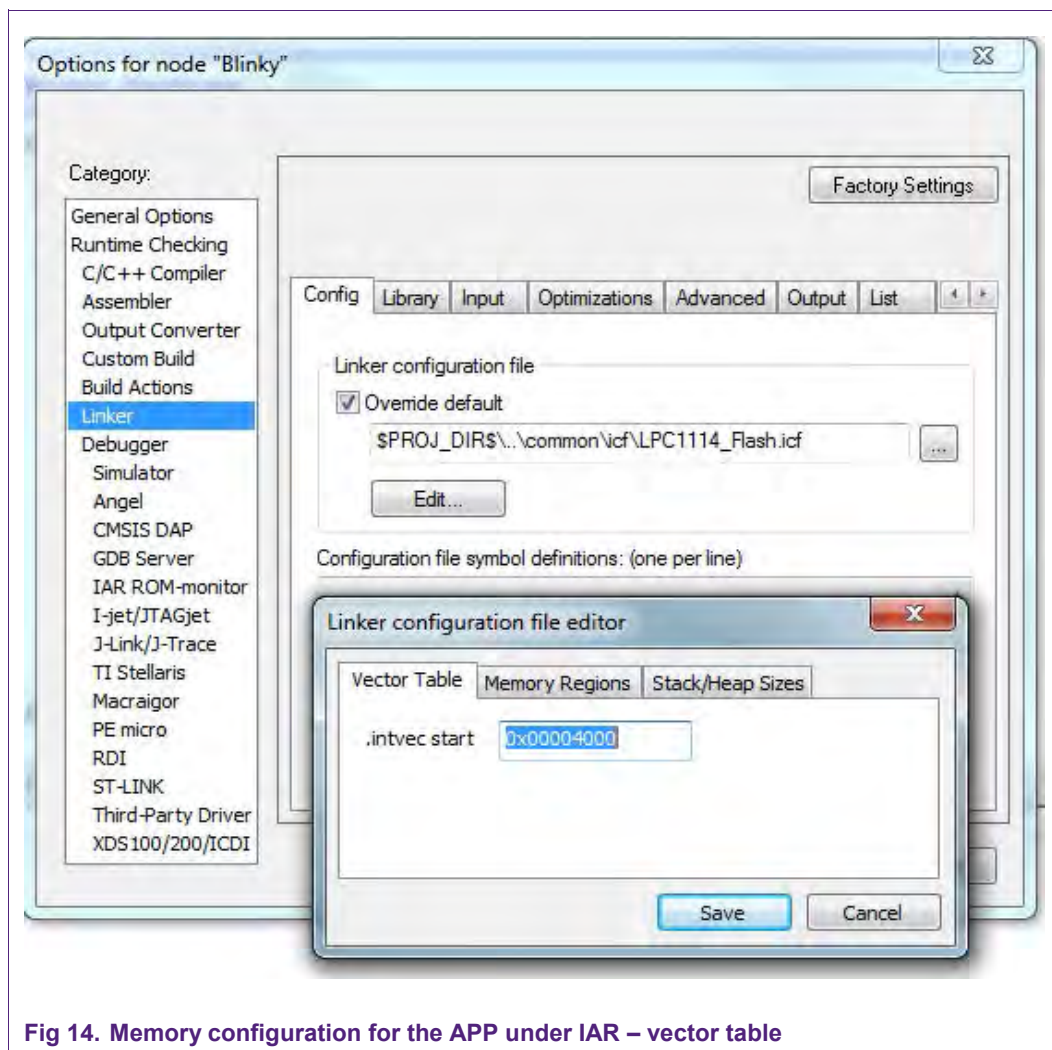
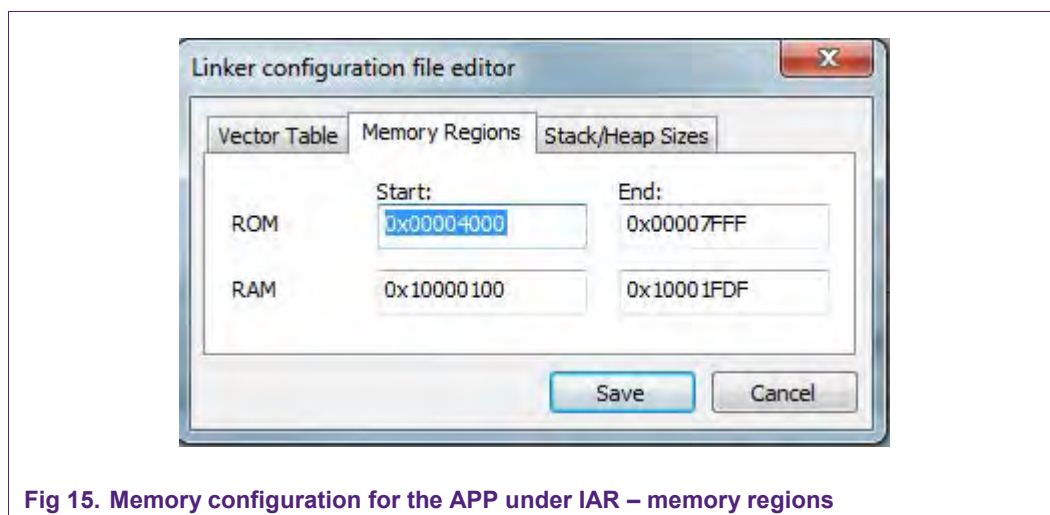

Fig 14. Memory configuration for the APP under IAR – vector table
Fig 15. Memory configuration for the APP under IAR – memory regions
- 2) Download the blinky project to the TX board at the memory address 0x4000, see Fig 14 & Fig 15.